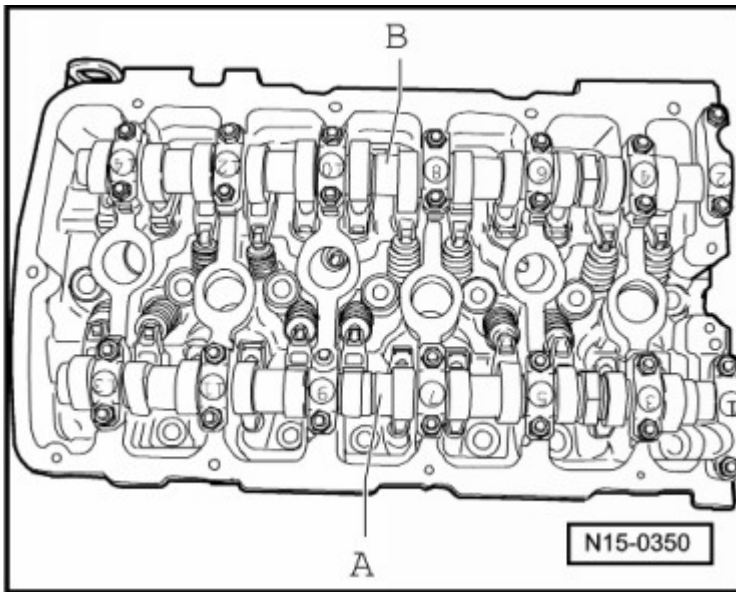

Fig. 14: Identifying Intake Camshaft And Exhaust Camshaft
- Intake camshaft tightening sequence **Fig. 14**